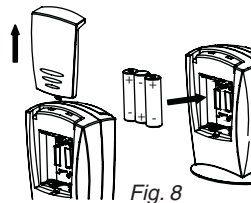

Fig. 8
Remove battery compartment cover and insert three LR6 (AA) alkaline batteries as shown in Fig. 8.
First remove decorative cover and replace with three LR6 (AA) alkaline batteries. (Fig. 8) When replacing batteries the chime is still programmed and can be used straight away.